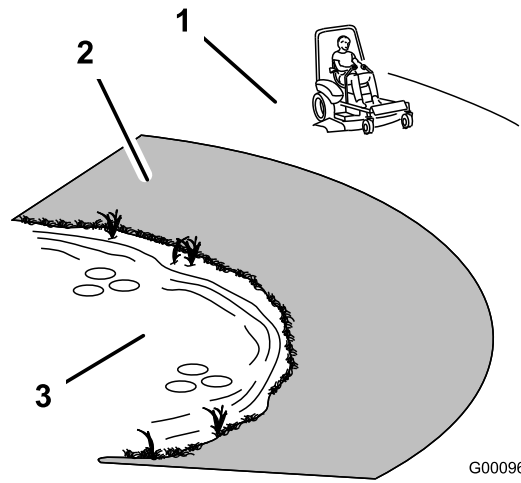

**Figure 8**
1. Remove the hairpin cotter pins and remove the 2 pins (Figure 8).
3. Install the 2 pins and secure them with the hairpin cotter pins (Figure 8).
4. To raise the roll bar, remove the hairpin cotter pins and remove the 2 pins (Figure 8).
5. Raise the roll bar to the upright position and install the 2 pins and secure them with the hairpin cotter pins (Figure 8).